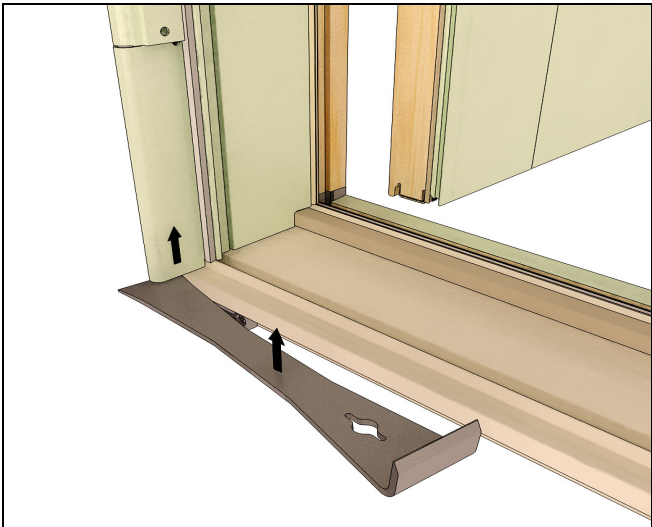

Figure 10
3. Insert a flat pry bar between the sill and hinge z-bar to carefully slide the hinge z-bar upward until the miters of the head z-bar and hinge z-bar align. See Figure 10.